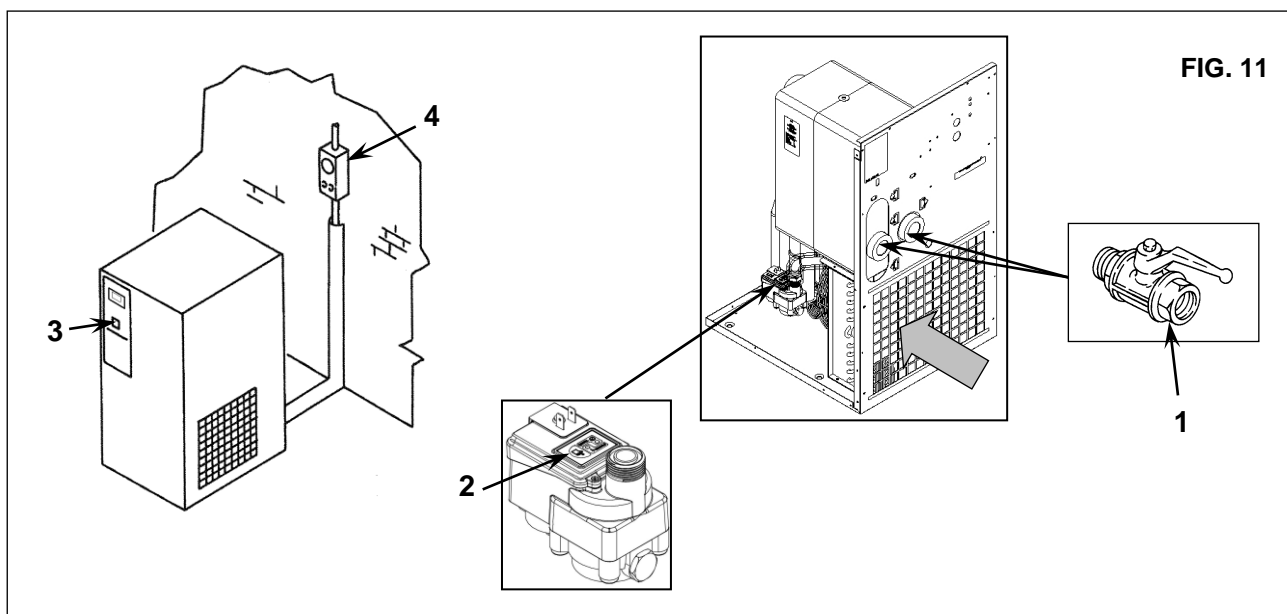

FIG. 11
- Close the taps Ref. 1 Fig. 11
- Release the pressure in the dryer by pressing the condensate drain "TEST" pushbutton locate on the steam trap Ref. 2 Fig. 11
- Switching the rocker switch in "0" position Ref. 3 Fig. 11
- Turn off the supply (see disconnect switch Ref. 4 Fig. 11)